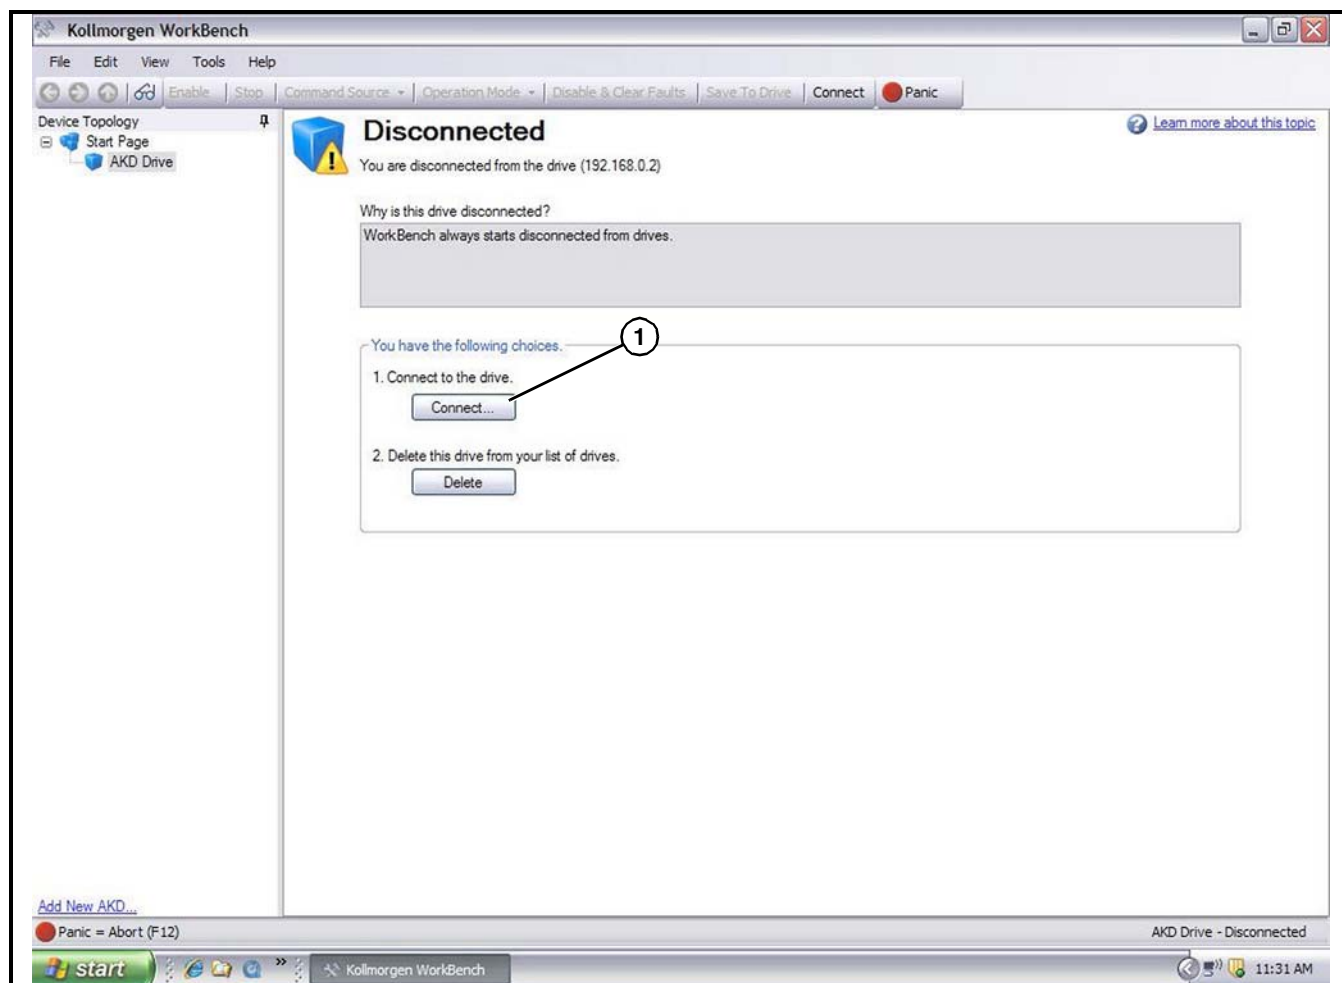

Figure 36
Click on **Connect** (Figure 36, item 1) under “1. Connect to the drive.” This process may take a few minutes.